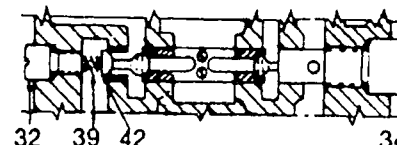

Figure 9C
1. Holding control module, as shown in Figure 9c (so that bellows is in upper left corner), remove small valve cap (32).
2. Turn module so that valve spring (39) and valve poppet (42) drop out.
3. Drop new exhaust plug (60) into module through small threaded hole. Press firmly into place with small 1/8"(3.18 mm), blunt tool like a nail.
4. Insert new small valve cap (32) with "O" Ring (52), seating on "O" Ring.